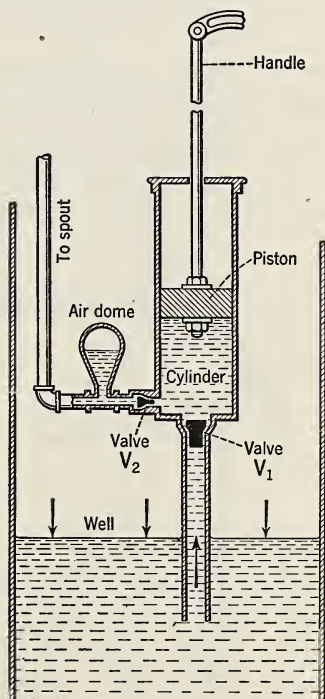

FIG. 102. The force pump is generally used for deep wells. The cylinder is down in the well, near the water surface.
83. What is a force pump? In its construction, the *force* pump differs from the lift pump in only two essentials: 1. The piston is solid and has no valve in it. 2. The valve V_2 is located at the entrance to a pipe opening near the bottom of the cylinder, and from one side of it. (See Fig. 102.) In such a pump, the cylinder is placed down in a deep well at a distance of 15 or 20 ft. from the surface of the water. A long piston rod, attached to the pump handle above ground, extends down into the well where it is attached to the piston. The outlet pipe delivers the